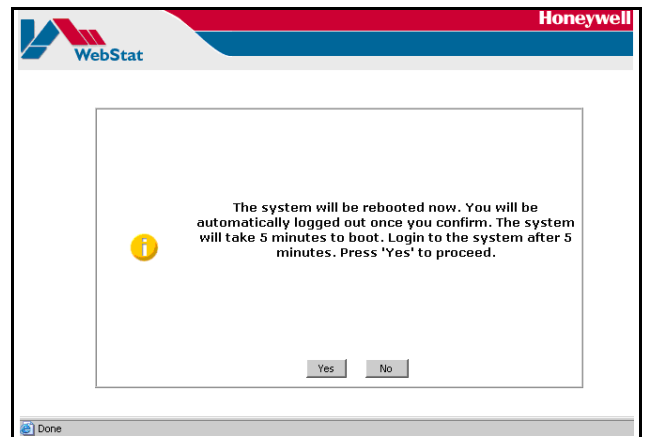

Fig. 10. Reboot Message.
2. Click **Save** to save the network changes. WebStat will prompt to reboot the system as shown in the Figure 10.